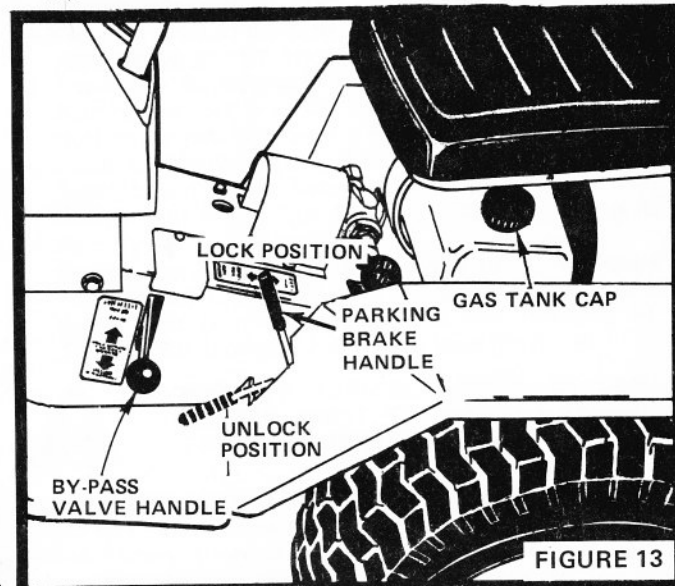

FIGURE 13
3. Fill Fuel Tank (Fig. 13) with fresh regular grade lead-free or leaded gasoline. Capacity is 2 gallons. NOTE: DO NOT SWITCH FROM LEADED TO LEAD-FREE GASOLINE.
3. Move By-Pass Valve Handle to "CLOSE" position (Fig. 13).
4. Pull up on Parking Brake Handle to "LOCK" position (Fig. 13).